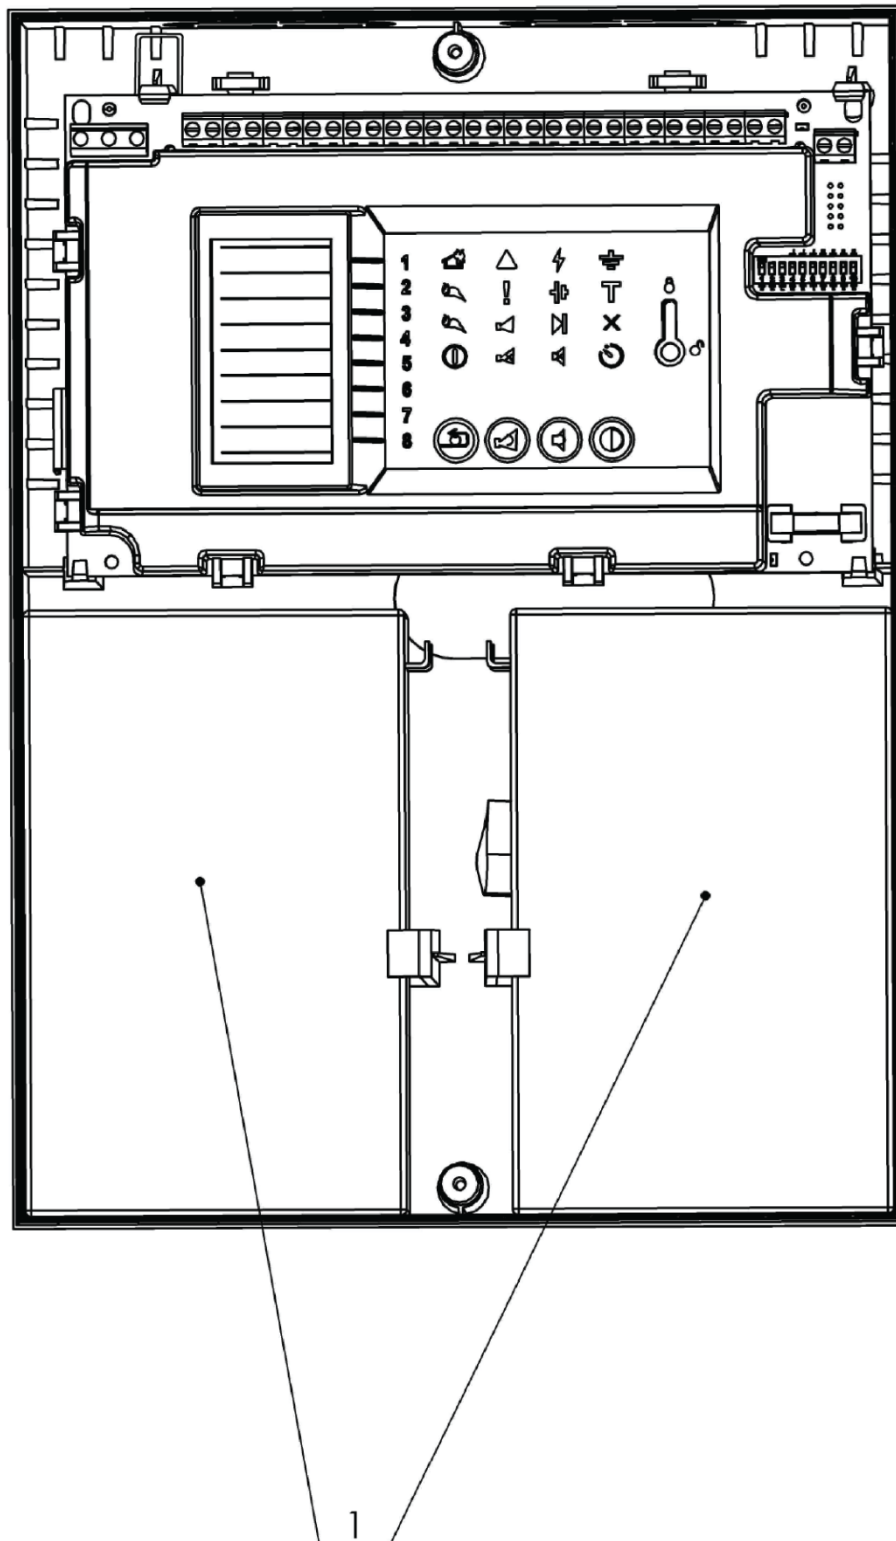

Fig.12
- Install the back-up batteries in the cabinet of the FCP (fig.12, pos.1). The maximum capacity of the batteries is 7 Ah, but it is correct to install 1.2 Ah or 4.5 Ah back-up batteries, as well.